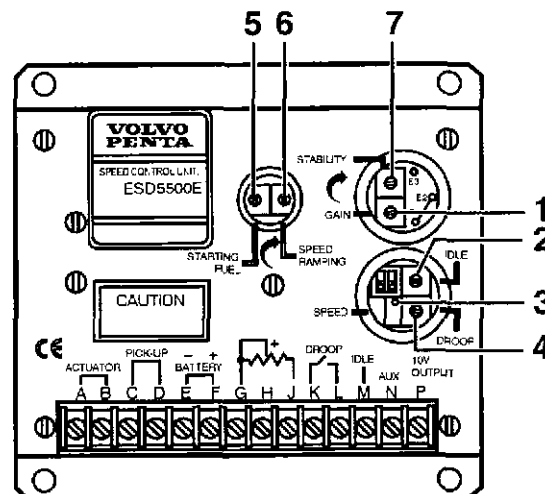

Fig. 3. Control unit ESD5500E with the rubber plugs removed.
The electronic control Unit (fig 3) compares the incoming signals with the pre-set values, and a correcting signal or an unchanged signal is transmitted to the actuator.
1. **Adjusting the idling speed** (marked "IDLE"), (4, fig. 3) is done with a single turn potentiometer. The idling speed can be adjusted with a jumper between the terminals "G" and "M" installed.
2. **Adjusting the operating speed** ("SPEED"), (1, fig. 3) is done with a 22 turn potentiometer.
3. **Governor sensitivity.** The governor's sensitivity is adjusted by a single turn potentiometer ("GAIN"), (1, fig. 3). A small change of frequency can be noticed when adjusting the "GAIN" control. This can be adjusted by the "SPEED" potentiometer (3).
4. **Stability control.** The governor's time constant is adjusted by the single turn potentiometer ("STABILITY"), (7, fig. 3).
5. **Droop.** The droop control (4, fig. 3), marked "DROOP" is working when terminals "K" and "L" are connected. The adjustment range is 1-5%. Turning **clockwise will increase** the value.